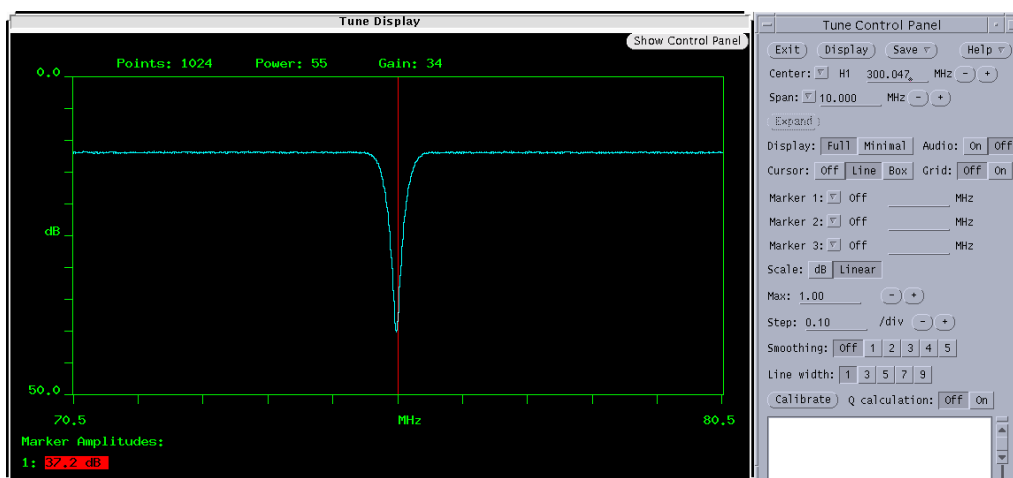

Figure 23. Probe Tuning Window (qtune Program)
This section describes how to use the graphical probe tuning program, *qtune* (shown in Figure 23), for swept-tune-type NMR probe tuning. *qtune* is available on ^{UNITY}INOVA and UNITY*plus* systems.
The Tune Display and Tune Control windows open, similar to **Figure 23**. The Tune Display is centered on the resonant frequency of the current experiment (*sfrq*).
- Full display shows the network-analyzer-like graph, as shown in **Figure 23**.